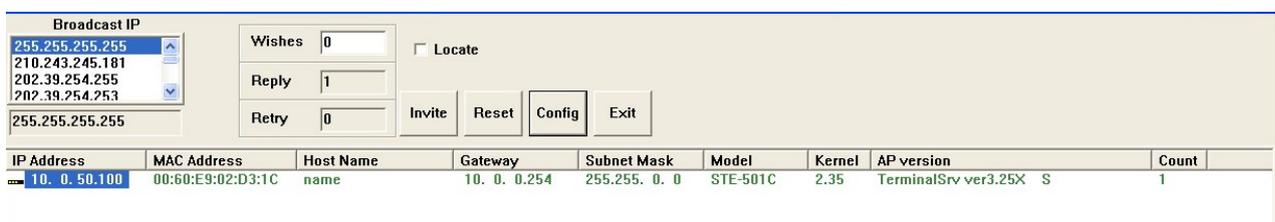
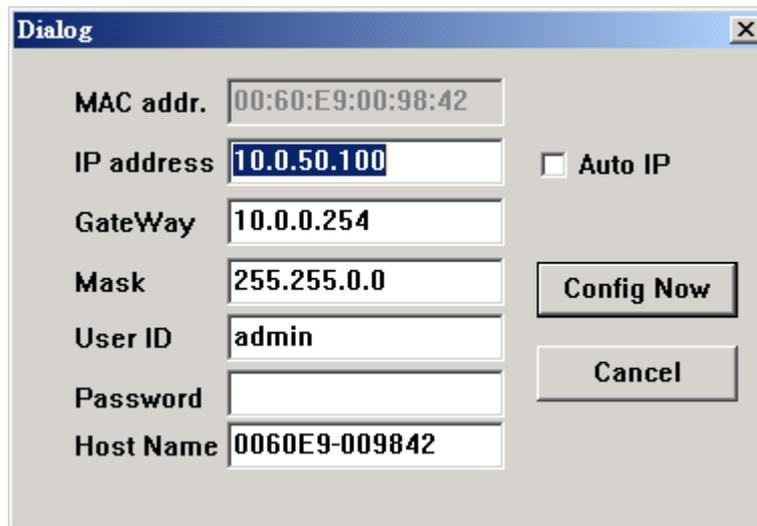

Figure 3.1 Configure by monitor.exe utility
Figure 3.2 Static IP setup dialog window
Use **monitor.exe** that comes with the product CD to configure the network parameters of STE-501C. Please click **Config**, see *Figure 3.1*, then give it a static IP information, see *Figure 3.2*.
1. Execute Monitor.exe (Figure 3.1)